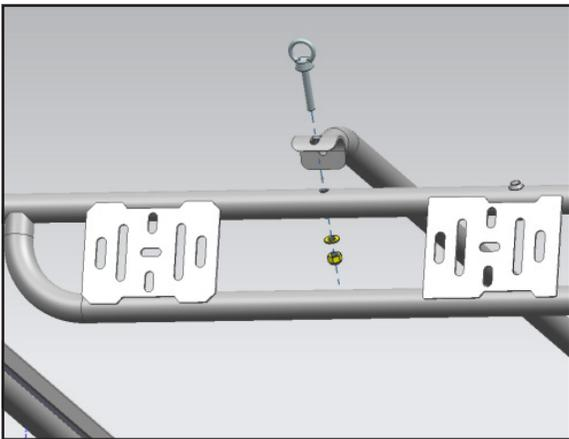

FIGURE 25
18. Select the (3) remaining Crossbars. Locate the mounting locations on the Side Rails for the crossbars. **NOTE:** Rack features multiple mounting locations, select the combination as desired. Attach each Crossbar to the top of the Side Rails with (2) 8mm x 50mm Button Head Bolts, (4) 8mm x 16mm Small Flat Washers and (2) 8mm Nylon Lock Nuts, (**FIGURE 25**). Use the included Plugs to seal off unused mounting holes.